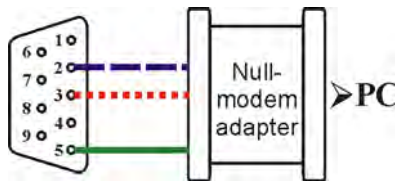

Figure 6: Straight Cable RS-232 Connection with a Null Modem Adapter
**Method B** (Figure 6)—Connect the RS-232 9-pin D-sub port on the unit via a straight (flat) cable to the null-modem adapter, and connect the null-modem adapter to the RS-232 9-pin D-sub port on the PC. The straight cable usually contains all nine wires for a full connection of the D-sub connector. Because the null-modem adapter (which already includes the flow control jumpering described in Method A above) only requires pins 2, 3 and 5 to be connected, you are free to decide whether to connect only these 3 pins or all 9 pins.